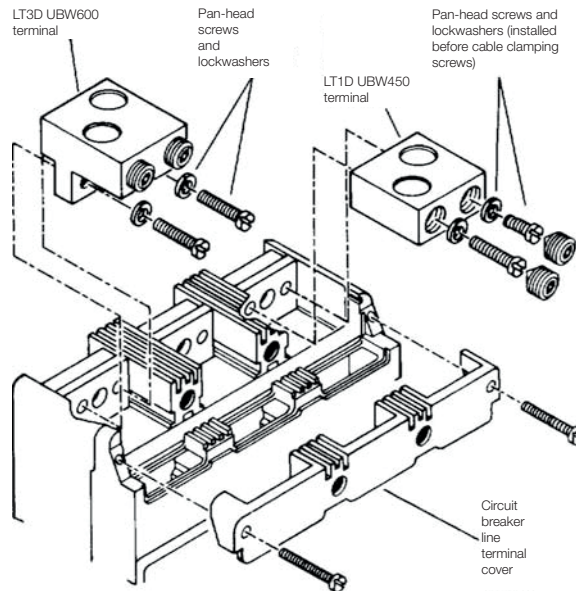

Figure 2: terminal installation
5. If not already installed, mount wire connecting terminals as shown in Figure 2. Secure the terminals to the circuit breaker using two pan-head slotted screws and lock washers. Torque to 6 to 8 lb-ft (8.14 to 10.85 N.m). With the circuit breaker mounted and before the conductors are installed and conductor clamping screws inserted, the terminal mounting screws may be checked for correct torque.